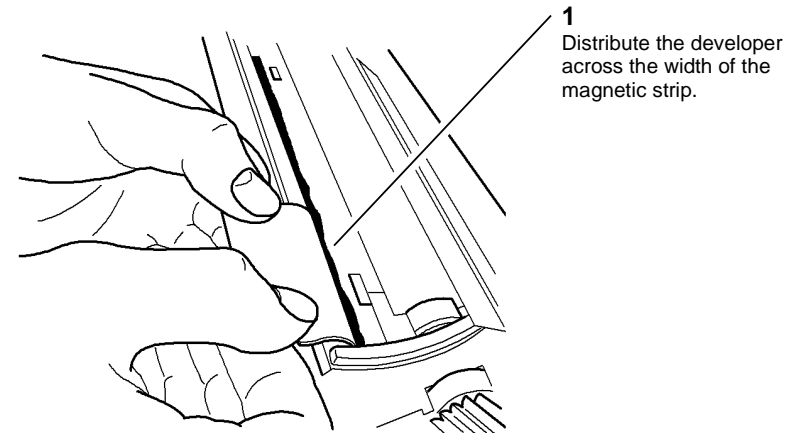

Figure 6 Distributing developer
4. Use a flat edge of the tool to distribute the developer across the width of the magnetic strip, Figure 6.